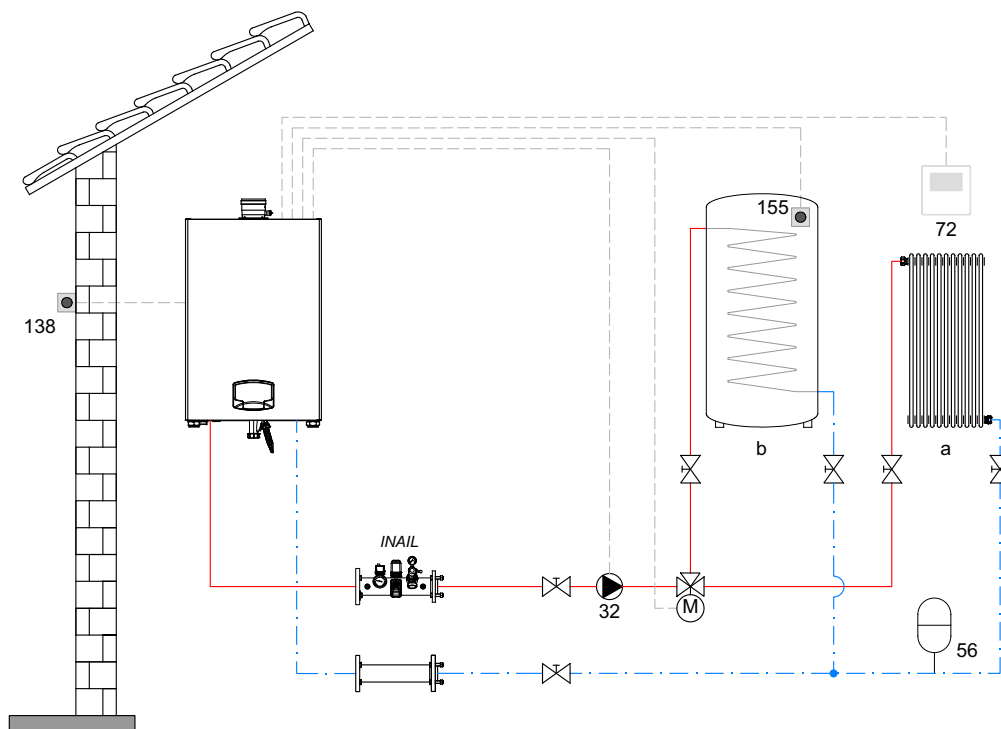
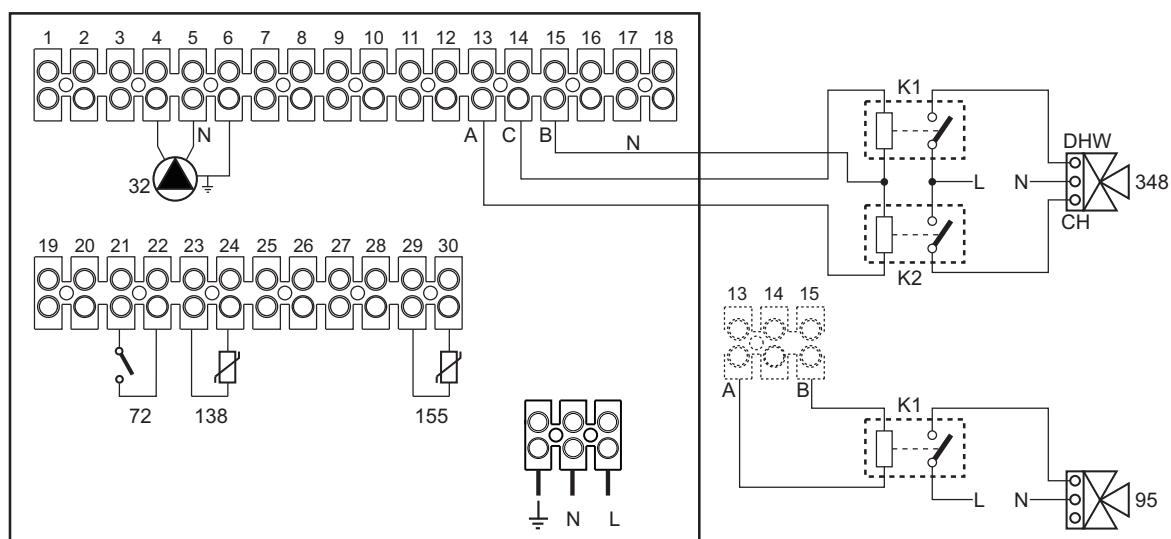

fig. 45
fig. 46
To avoid damaging the board, it is advisable to use external relays to control the 3-way valve, as indicated in fig. 46.
- Legend fig. 45 and fig. 46